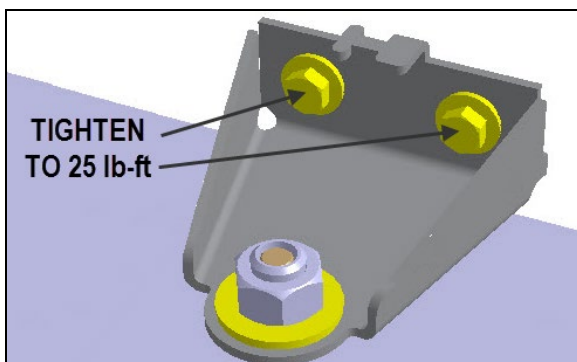

Fig.29
25. Reinstall the upper condenser pivot bracket and tighten the two (2) M8 hex bolts to 25 lbs.-ft. (Fig.29).